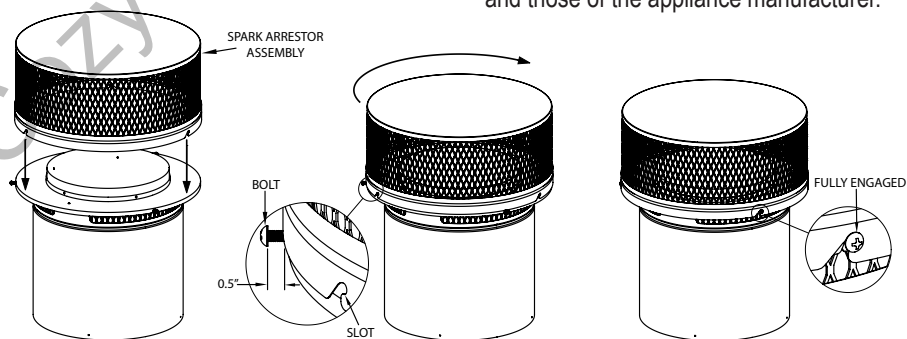

Figure 19
**4. How to Clean:** Have your chimney cleaned by a professional Certified Chimney Sweep if you have doubts about your ability to clean it. Use a plastic, wood, or steel brush. Do not use a brush that will scratch the stainless steel liner of your chimney. Scrub the spark arrestor with a wire brush. To remove the Spark Arrestor Assembly for cleaning, loosen the three bolts that attach it without fully removing them, then twist it counter-clockwise while lifting upwards. To reinstall (**Fig. 19**), lower the spark arrestor assembly onto the three loosened bolts (without aligning the slots and bolts), then twist the spark arrestor assembly